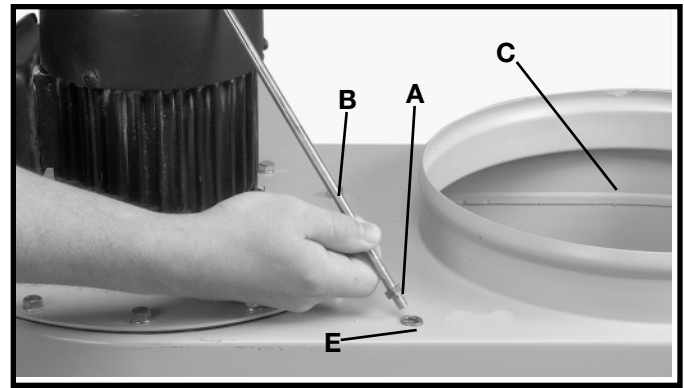
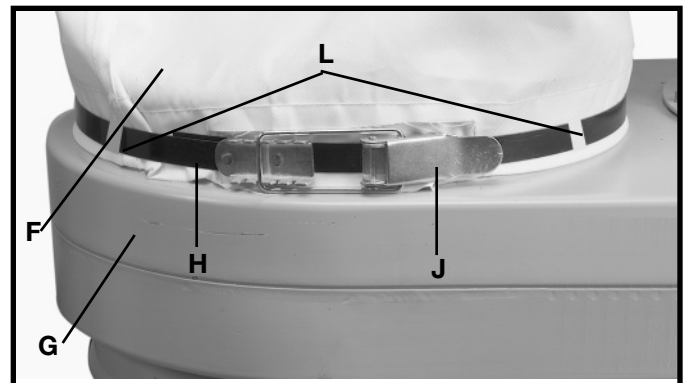

Fig. 13
Fig. 15
1. Thread a 5/16-18 hex nut (A) Fig. 13, onto the end of bag support rod (B). Thread rod into hole (E) and tighten nut (A) against motor assembly to hold support rod (B) upright. Height of support rod can be adjusted after the filter bag is in place. The hook in the support rod (B) should be positioned over the drum. This can be accomplished by rotating the support rod until the hook is positioned over the drum (C) Fig. 13.
3. Position open end of filter bag (F) Fig. 15, over the lip of drum (G). **NOTE:** It may be necessary to adjust the height of the drum support rod at this time. If adjustment is necessary, loosen nut (A) Fig. 13, and rotate support rod (B) as needed to obtain proper rod height to support filter bag (F). Tighten nut (A) Fig. 13.
4. Place locking band (H) Fig. 15 around the filter bag (F), through filter bag loops (L), and fasten filter bag to drum by locking clamp (J) as shown in Fig. 15. **IMPORTANT:** Make certain band (H) is positioned in the channel of drum (G) before locking clamp (J).